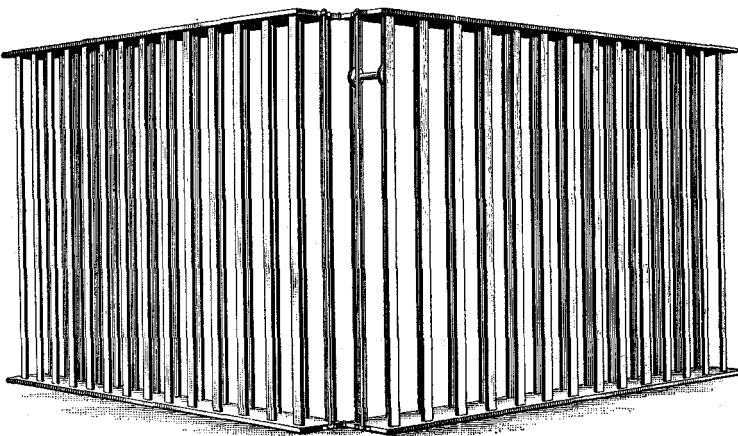

FIG. 3
3. Warper Creels.—The essential features of all creels are to have them so constructed that the different ends will be unwound from the spools without snarling; that the pull on the yarn will be as straight as possible; and that there will be the least possible strain on the yarn. The form most generally used at the present time is known as the **V** creel, shown in Fig. 3. It is so constructed that it holds the spools